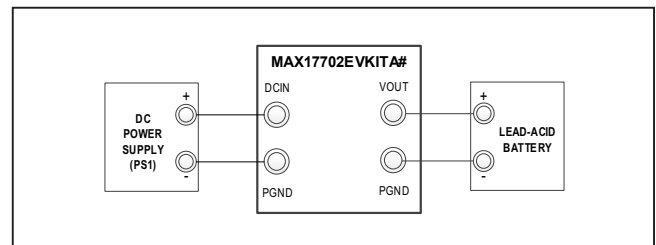

Figure 1. Battery Connection with the EV kit
- 3) Connect PS1 and Pb-acid battery to the EV kit as shown in Figure 1.